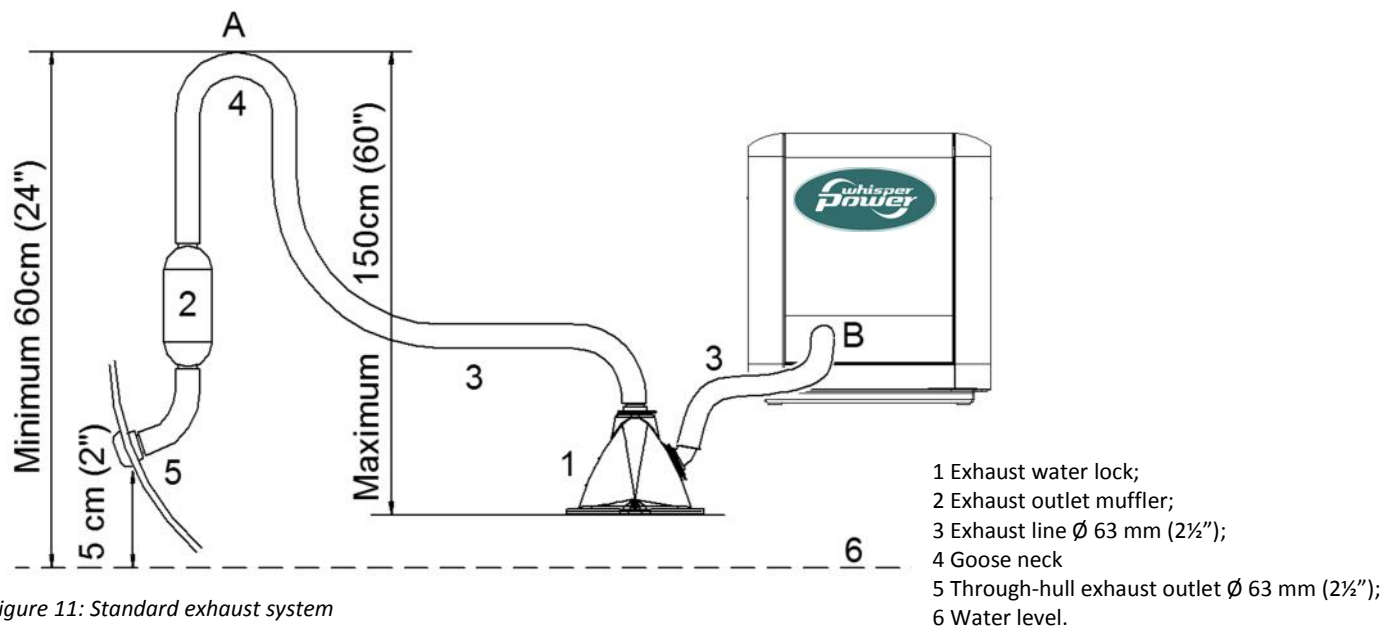
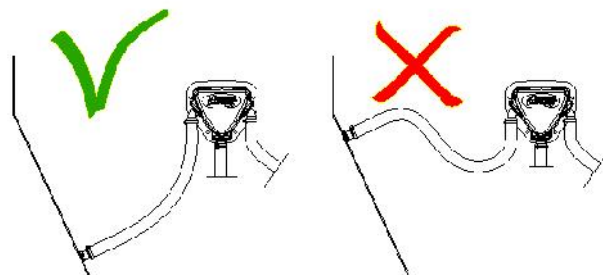

Figure 11: Standard exhaust system
Figure 14: Water trap in exhaust system
The generating set exhaust system must remain completely independent and separate from the exhaust system of any other engine on board. A water lock prevents the generating set from being flooded by cooling water and should be installed as close to the generating set as possible. The lock must be large enough to hold the entire water volume held in the hose from the top of the goose neck to the water lock. The water lock must be installed at the lowest point of the exhaust system (see Figure 11, ref. 1). The exhaust hose must have an inner diameter of 63 mm (2½"). The exhaust system must be installed so that the back pressure inside the exhaust does not exceed 0.07 bar (1psi – 70 cm water column) and total length from the generator to the top of the goose neck or water/separator does
The exhaust hose descends from the capsule to the water lock. Then the hose rises via the "goose neck" to the through-hull exhaust outlet, situated minimum 50 mm above the water line (Figure 11, ref 5.) The "goose neck" must be vertical and
However, water traps should be avoided as the fumes still contain water and this should not accumulate in bends (see Figure 14). An additional outlet exhaust muffler close to the hull outlet will help further to reduce noise emission (Figure 11, ref 2).